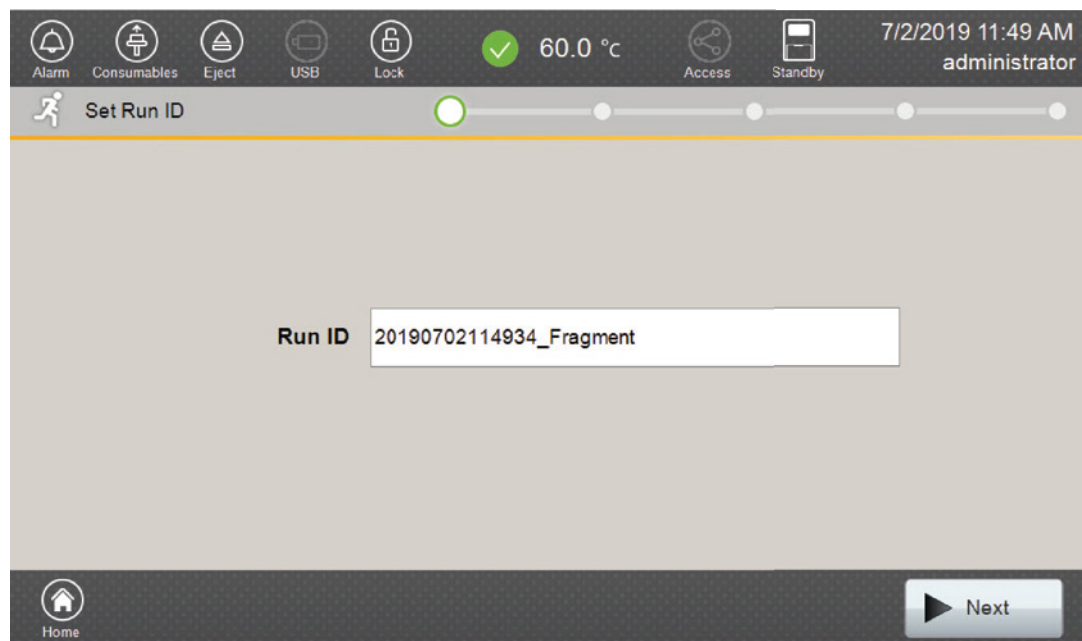

Figure 7. 'Set Run ID' screen.
- Use the default name that includes date, time and 'Fragment' or enter a Run ID on the 'Set ID' screen (Figure 7). Select the **Run ID** box to open the 'Run ID' window and a keypad will become active on the touch screen. Alternatively, the Run ID can be entered using a traditional keyboard if one is connected to the Spectrum Compact CE System.